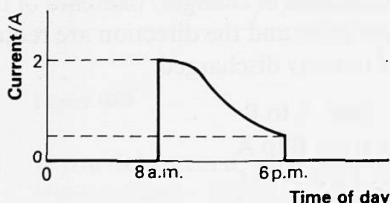

Figure B76
- e A damaged battery produces a graph of current against time like that in figure B76. Show how the charge passed can be represented on the graph as in part d.